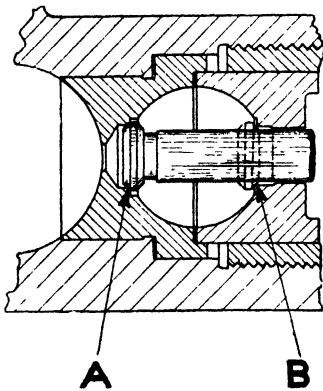

Fig. 29.—CHANGE-OVER VALVE
(1) Grip the starting handle firmly, ensuring that it is fully engaged with the crankshaft end, and turn smartly. When a good speed has been attained on the flywheel, pull out the valve lifters, when the engine should immediately fire. On multi-cylinder engines the other valve lifters should be pulled out immediately after.
(2) As soon as the engine has attained its normal speed, open the compression ratio change-over valve by screwing the handwheels outwards until they come to a stop.
(3) When the change-over valve is screwed in, it beds against the seating at *A*, Fig. 29, and when screwed out against seating at *B*. These seatings should be kept free from carbon. This can be done by turning the valve handwheel backwards and forwards once or twice before leaving in the final position, tight up.